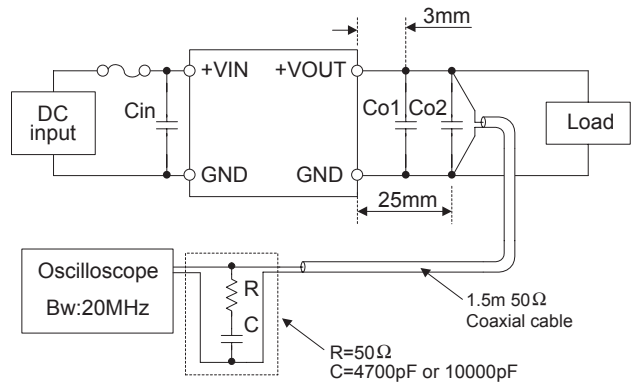

Fig.3.4 Measuring method of Ripple and Ripple Noise
■ Ripple and Ripple Noise are measured, as shown in the Fig.3.4. C_{in} is shown in Table3.2, C_{o1} and C_{o2} is shown in Table 3.4.